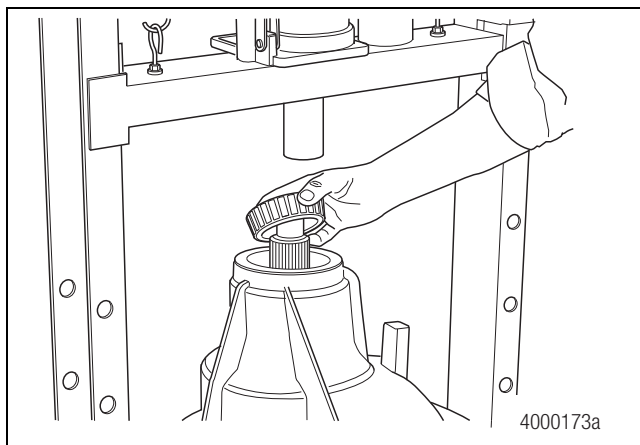

Figure 5.8
8. Install the outer bearing cone into the carrier. Figure 5.8.